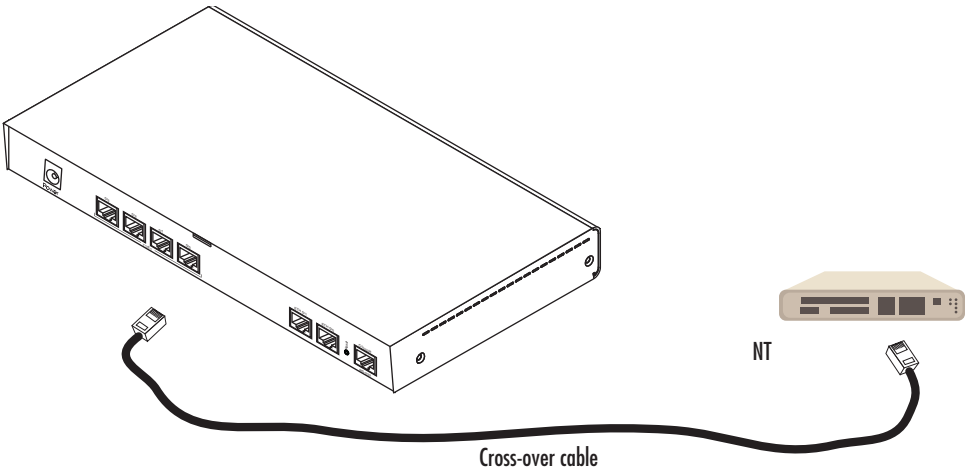

Figure 16. Connecting a T1 PRI port to an NT device
The T1 PRI is usually connected to a PBX or switch—local exchange (LE). Type and pin outs of these devices vary depending on the manufacturer. In most cases, a straight-through RJ-45 to RJ-45 can be used to connect the PRI with a PBX. A cross-over cable is required to connect to an NT device, as illustrated in Figure 16 on page 53.